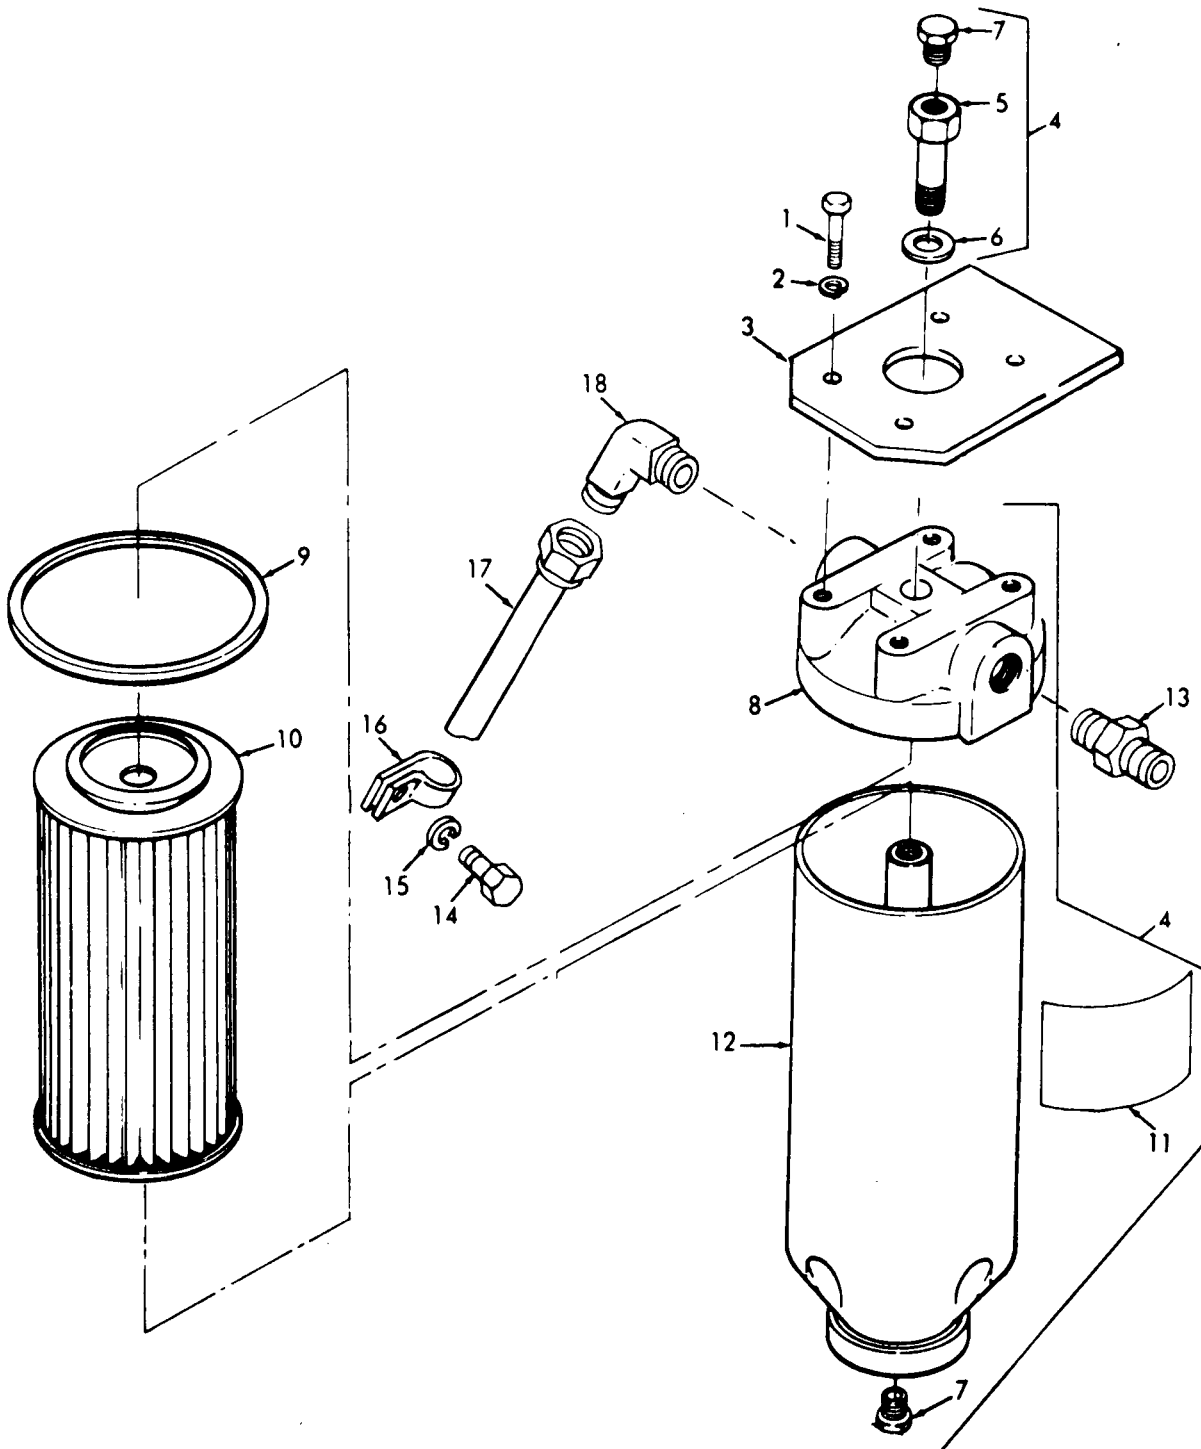

Figure 8-4. Secondary Fuel Filter, Removal and Installation.
a. Removal (Refer to figure 8-4).
(1) Remove drain plug from filter housing and allow fuel to drain into a suitable container.
(2) Disconnect fuel hose assembly.
(3) Remove the secondary fuel filter.
(1) Clean fuel filter assembly parts in an approved solvent and dry thoroughly.
(2) Inspect filter head and housing for cracks, corrosion, and other damage.
(3) Replace any defective parts.
c. Installation. Install the fuel filter per figure 8-4.
## LEGEND FOR FIGURE 8-4: